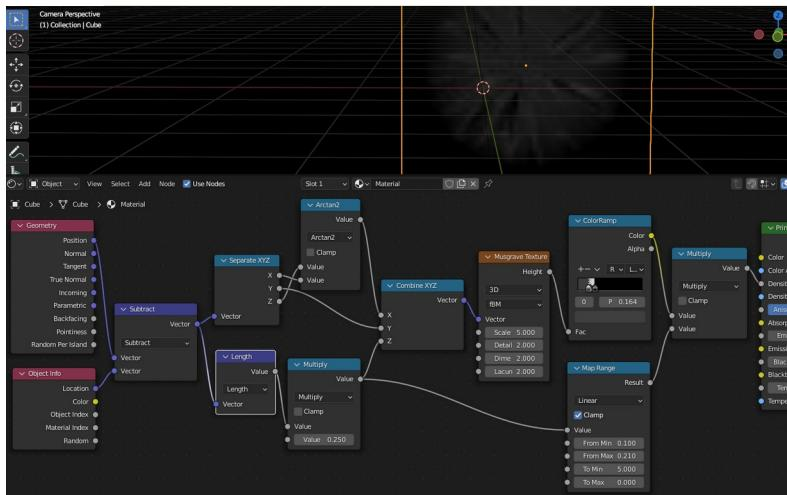

Figure 10-9 Completed Material Nodes for Radial Rays
4. You have only done the first part of the exercise, calculating the radial angle of each point, however there is a problem you should sort out now. Try moving the rays object and you will see that the center of the pattern is fixed to the global origin of the scene. This is because the geometry position is in the global frame of reference so, to get the position within the volume you must subtract the location of the center of the object. To do this use **Add ▶ Converter ▶ Vector Math**, and drop the node onto the pipe between the existing geometry position and the separate XYZ node, then change its mode to **Subtract**. Create a node with a Location output by selecting **Add ▶ Input ▶ Object Info**, and feed that into the other Vector input of the subtract node. The node arrangement should look like the left part of Figure 10-9 and now, if you move the rays object, you should find that the radial pattern moves too.
To make the density high in the middle, reducing to zero at the edges you could use some math nodes, or a color ramp node followed by a math node, but in Figure 10-9 you can see that I have introduced a map range node which can sometimes simplify the node tree. You may also notice the other change I made; connecting the Y location into the noise texture lookup. This has the effect of making the density vary